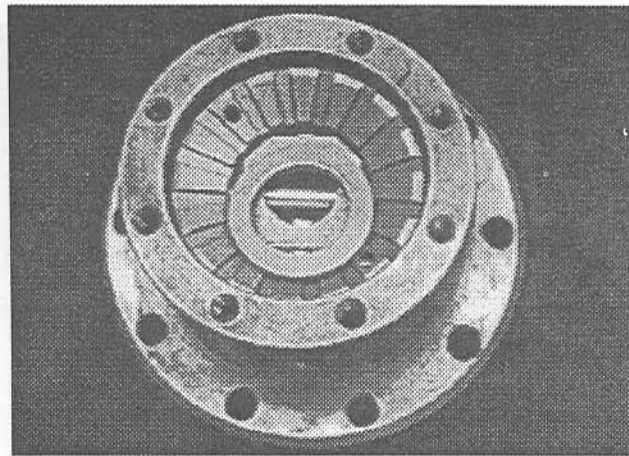

Figure 11
6. **Turn the other driver over** and hold it so that the stop pins line up with the springs in the lower driver. Carefully lower it until the pins rest on the springs (see **Figure 11**). Push it up and down to be absolutely sure that everything is in place and that all springs are functioning properly. Proper operation of the parts at this point is very important!